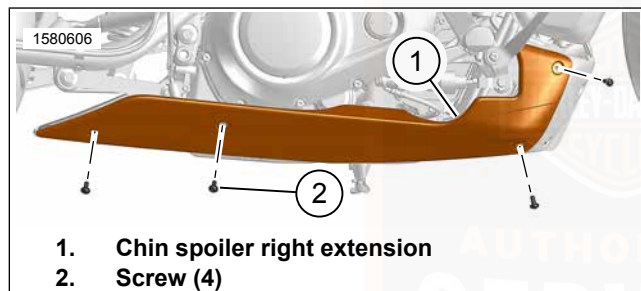
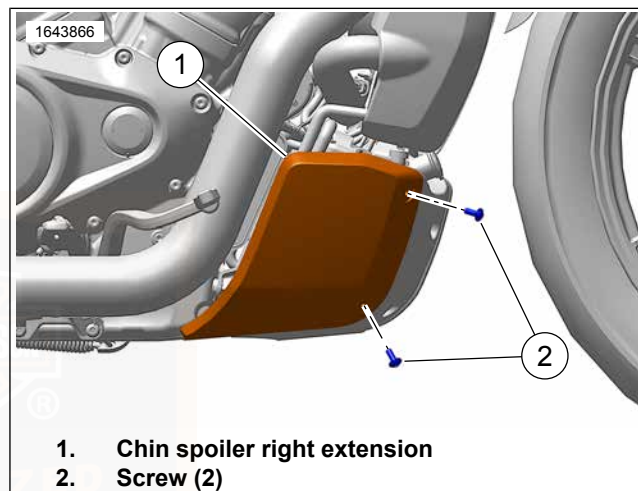

Figure 86. Chin Spoiler Right Extension (Long)
Figure 87. Chin Spoiler Right Extension (Short)
1. See Figure 86 and Figure 87. Remove screws (2).
2. Remove chin spoiler right extension (1).
1. See Figure 86 and Figure 87. Install chin spoiler right extension (1).
2. Install screws (2). Tighten.